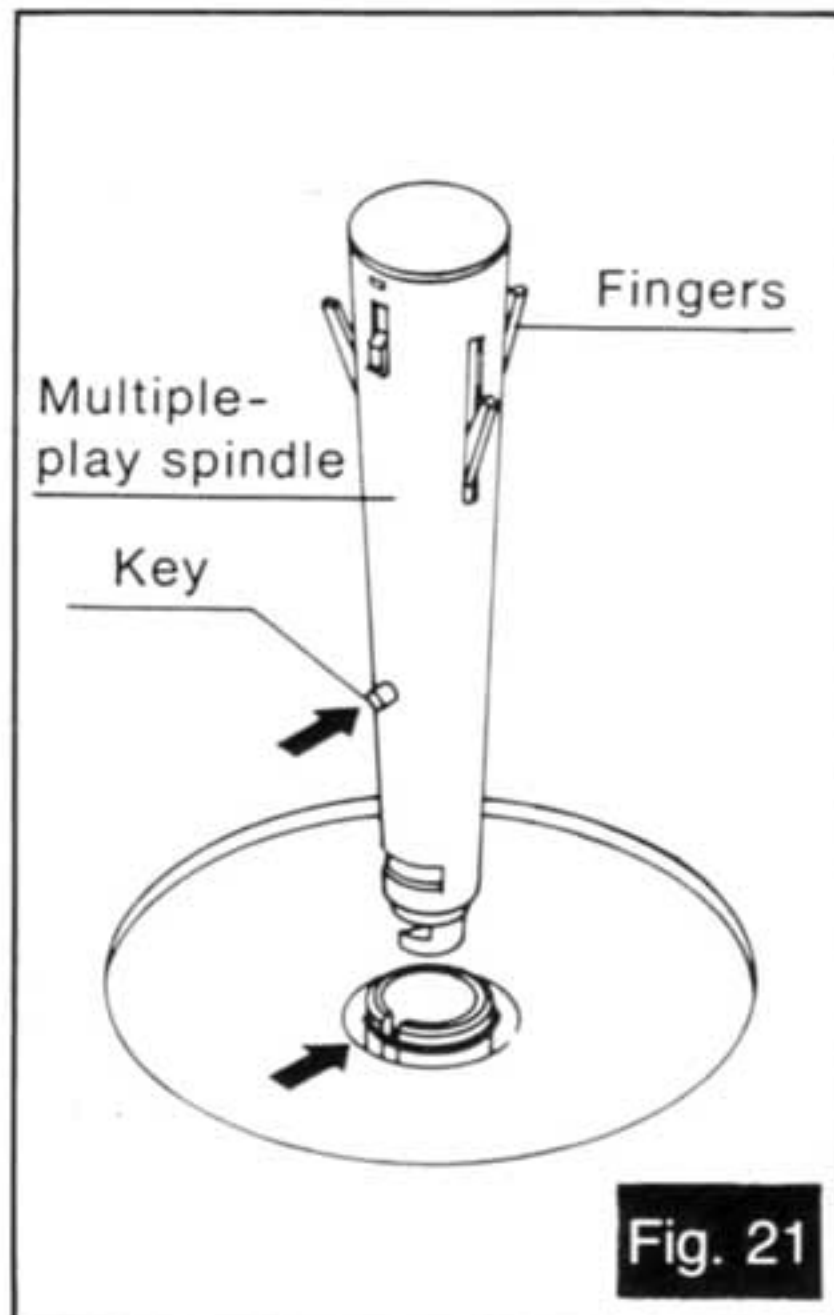

Fig. 21
- ❷ Start play in the same way as for fully automatic single-play.
- 1 Insert the multiple-play spindle, aligning the key at its base with the slot of the center spindle. (See Figs. 21 and 22.) Then, pushing downward, rotate the spindle clockwise until it stops.